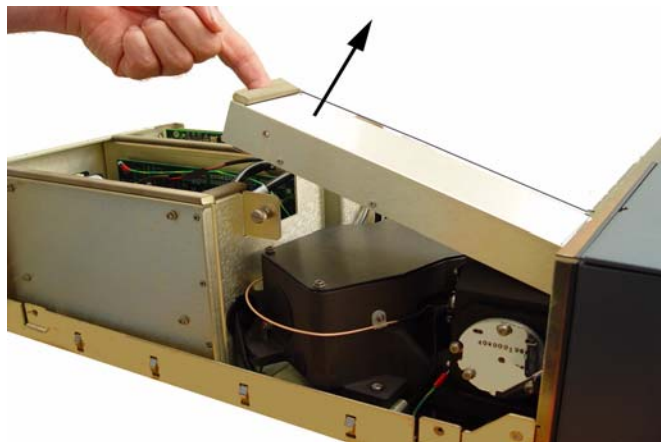

Figure 2 - Removing Plenum
6. Remove the plenum after loosening the captive screw that secures it to the chassis (Figure 2).